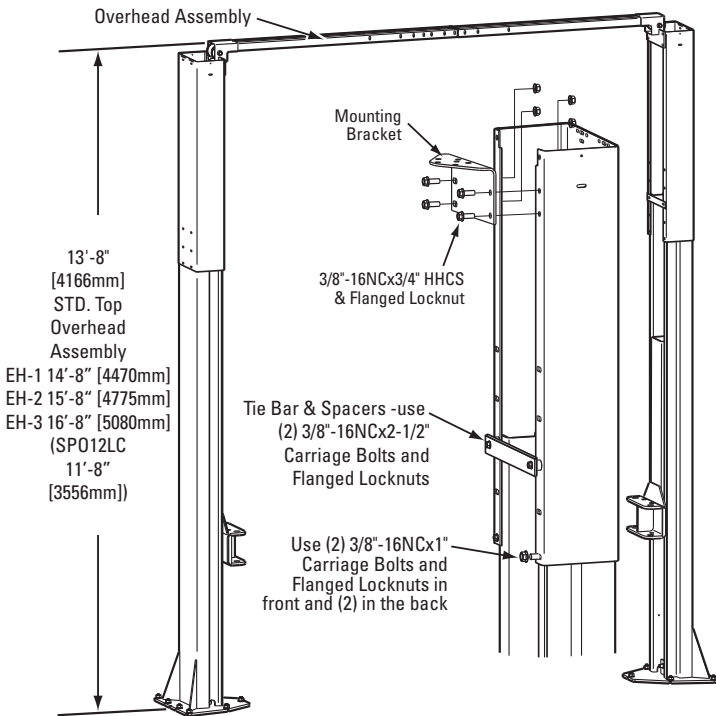

Fig. 2
**Lift Height:** See Fig. 2 for overall lift height of each specific lift model. Add 1" min. to overall height to lowest obstruction.
**Overhead Mounting Bracket:** Install Mounting Brackets to column extensions as shown, Fig. 2.